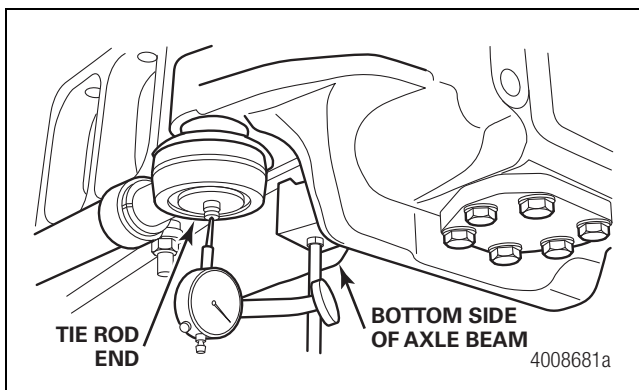

Figure 10.28
5. Place the indicator tip near the tie rod end grease fitting. Figure 10.28. Set the dial indicator on **ZERO**.